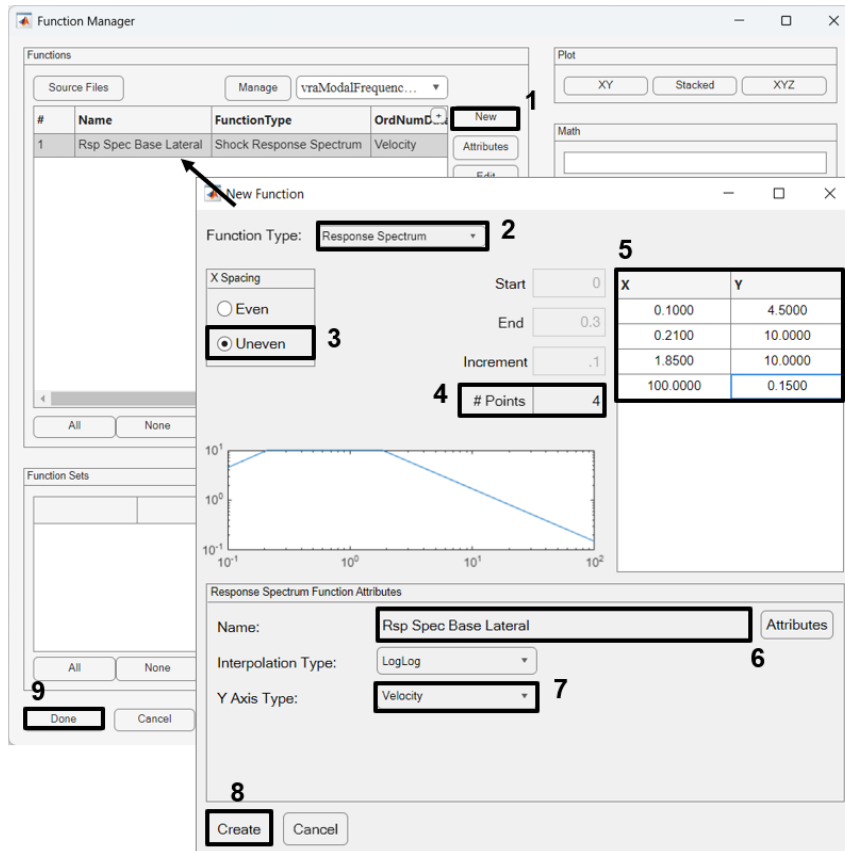
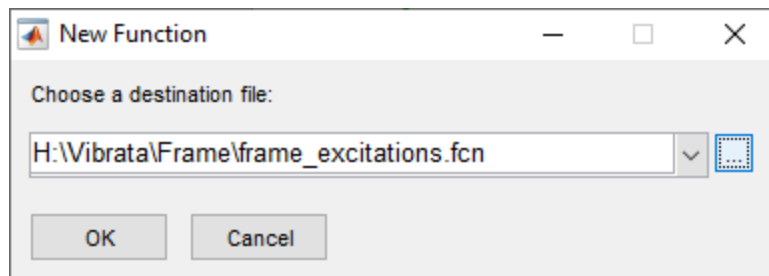

Figure 4-79. Define a Response Spectrum velocity function.
Figure 4-80. Store the new function in the frame excitations file.
- In the Function Manager, use the Source Files button to open the "frame\_excitations.fcn" file from section 4.2.3. (If you have not created that file yet, you will do so here when you finish defining the response spectrum function.) Define a new velocity response spectrum function as shown in Figure 4-79. Click the **Create** button and store the function to "frame\_excitations.fcn" (Figure 4-80). Click **Done** on the Function Manager main dialog to return to the Event Manager.